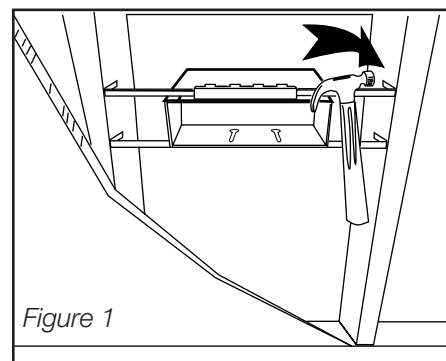

Figure 1
- Step 3.** Extend bar hangers to fit between joists. (Figure 1) Position fixture temporarily by hammering nail-in tabs into studs. Secure permanently into studs with appropriate fastener (not included).